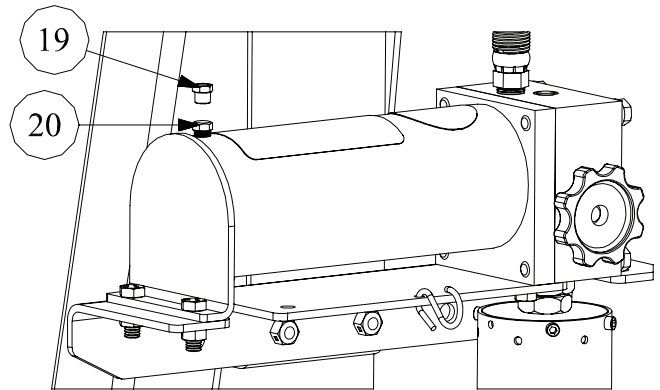

Figure 7
5. Remove the shipping plug [#19] from the pump [#12] as shown in Figure 7.